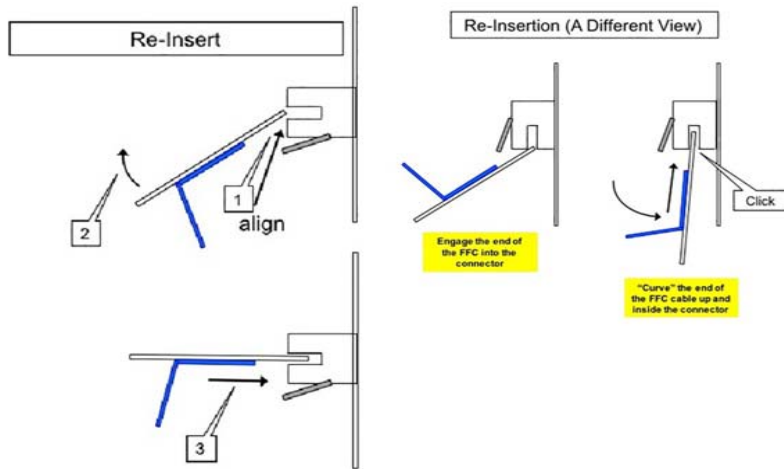

Figure 6 Proper FFC Cable Insertion.
3. Referring to **Figure 6**, grasp the grip tab of the FFC cable placing the back, or non-conductive Side, of the FFC cable against the edge of the connector and centered to the connector.